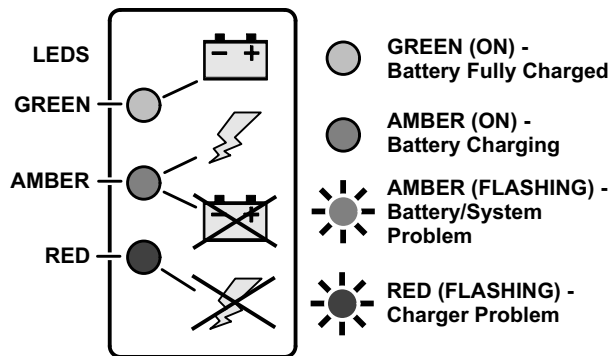

Figure 3-12. Charger Decal LED Indicators
3. When powered up the charger will go through a short LED indicator self-test. The battery charger LED indicators on the charger (Figure 3-12.), will flash in sequence for two seconds.
If a fault has occurred during battery charging, the (AMBER or RED) LED on the charger LED indicator (See Figure 3-12.) will flash corresponding to the fault which occurred. Refer to Table 3-1 following for the charger LED flash codes and their meaning.